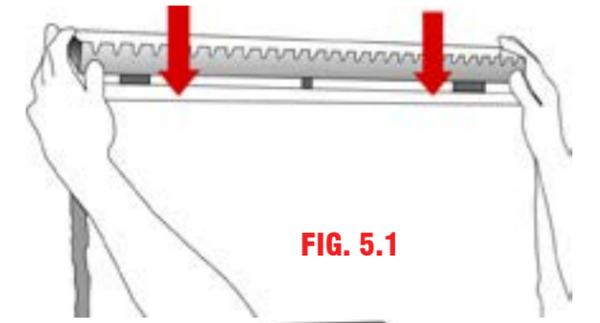

FIG. 5.1
1. Gently lift the disperser (E) from behind the Pocket Clips (M) and remove each Pocket Clip out of the Wall bracket pocket (B). Slide the tabs on the disperser (E) behind the stone and into the bracket pockets on the wall bracket (B) (Fig 5.1). The disperser (E) should sit evenly along the angle on the stone edge. Press the disperser (E) down firmly to ensure there are no gaps between it and the stone. Center the Disperser (E) from left to right on the stone. You may want to keep the Pocket Clips should you need to install your fountain in a new location.